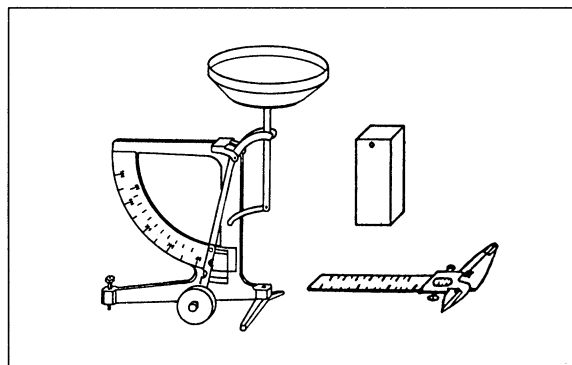

Fig. 1 ► 1.
1. Lay out all the apparatus ready for use, as shown in fig. 1.